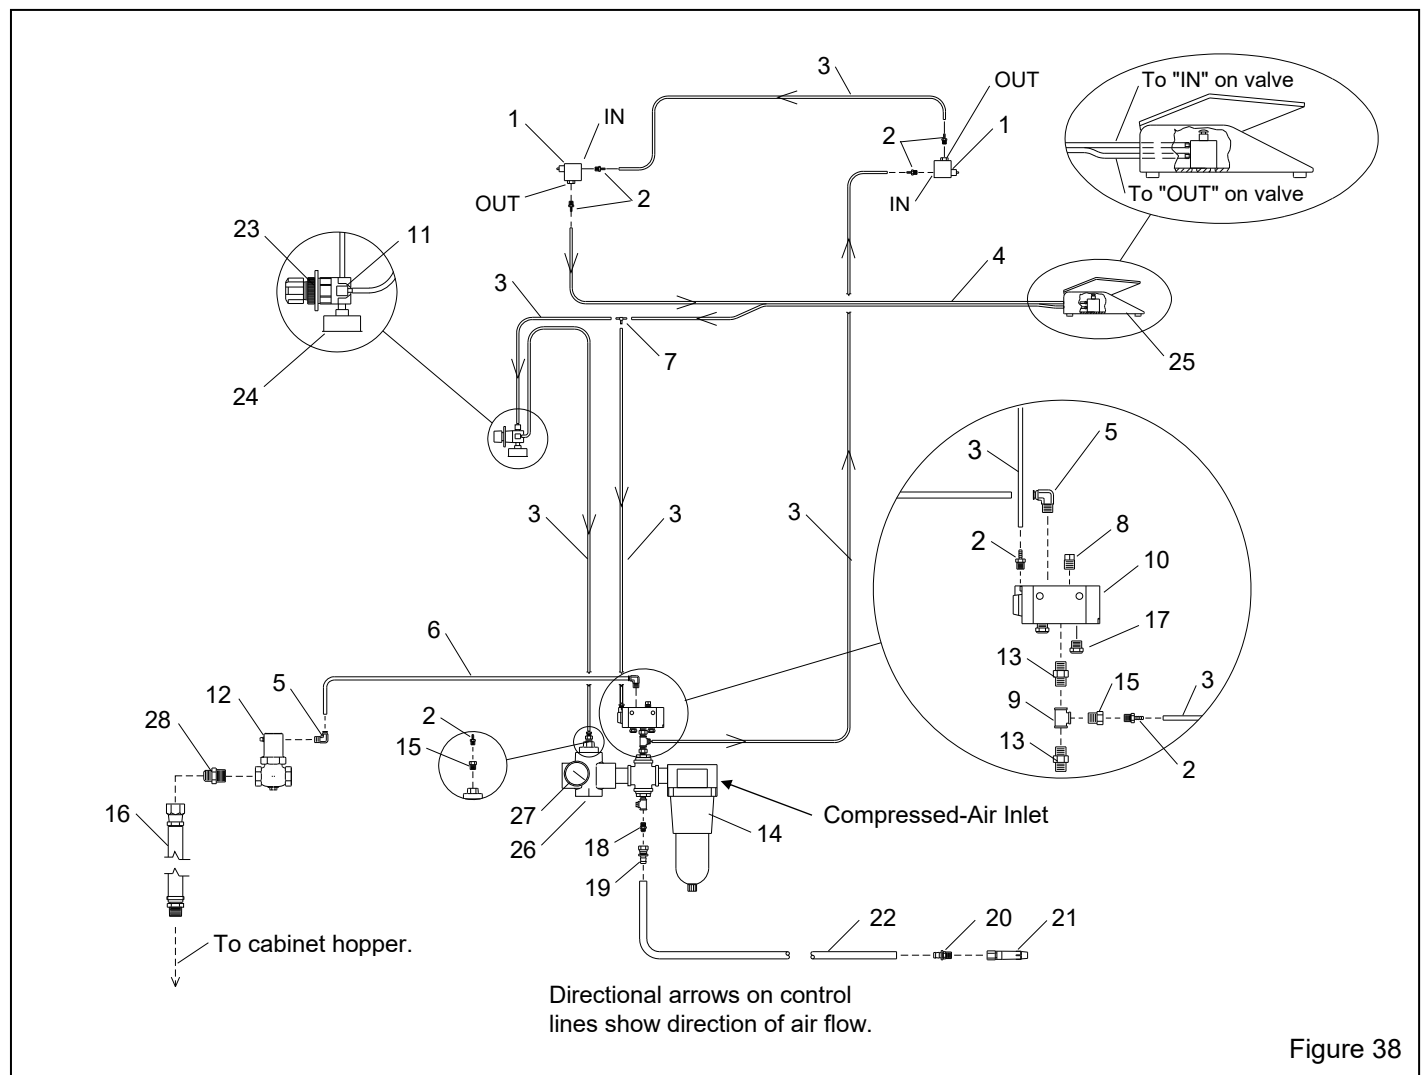

Figure 38
9.6 Plumbing and Air Schematic – Figure 38